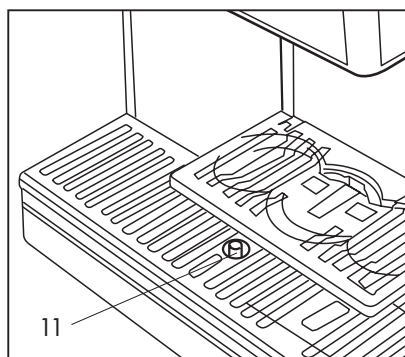

Fig. 17
When the red level float in the tray (11) protrudes from the hole (Fig. 17) it means that the water collected in the drip tray is exceeding the maximum level.